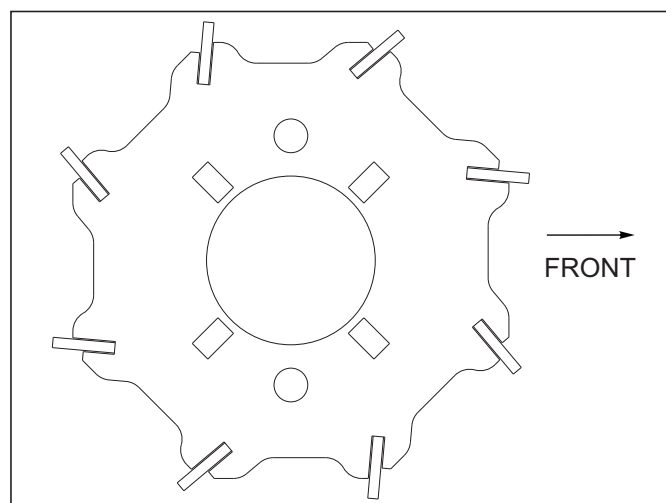

Figure 4-13: Flat Reel
5. The 12" diameter reel consists of nine 3/4" diameter round bars with a chevron shape for smoother rotation. The reels have no inner shaft to reduce plugging in wetter conditions. The reels operate independently of the 3 row spike with two spring loaded arms per reel to maintain consistent down pressure. Install the round bar cheveron reels with the chevron direction matching typical tractor tire direction. A 12" diameter spiral wound reel with 1/4 x 1-1/2 angled blades is also available. The blades on flat bar reels are angled for more aggressive action. Install the reels as shown See Figure 4-13.